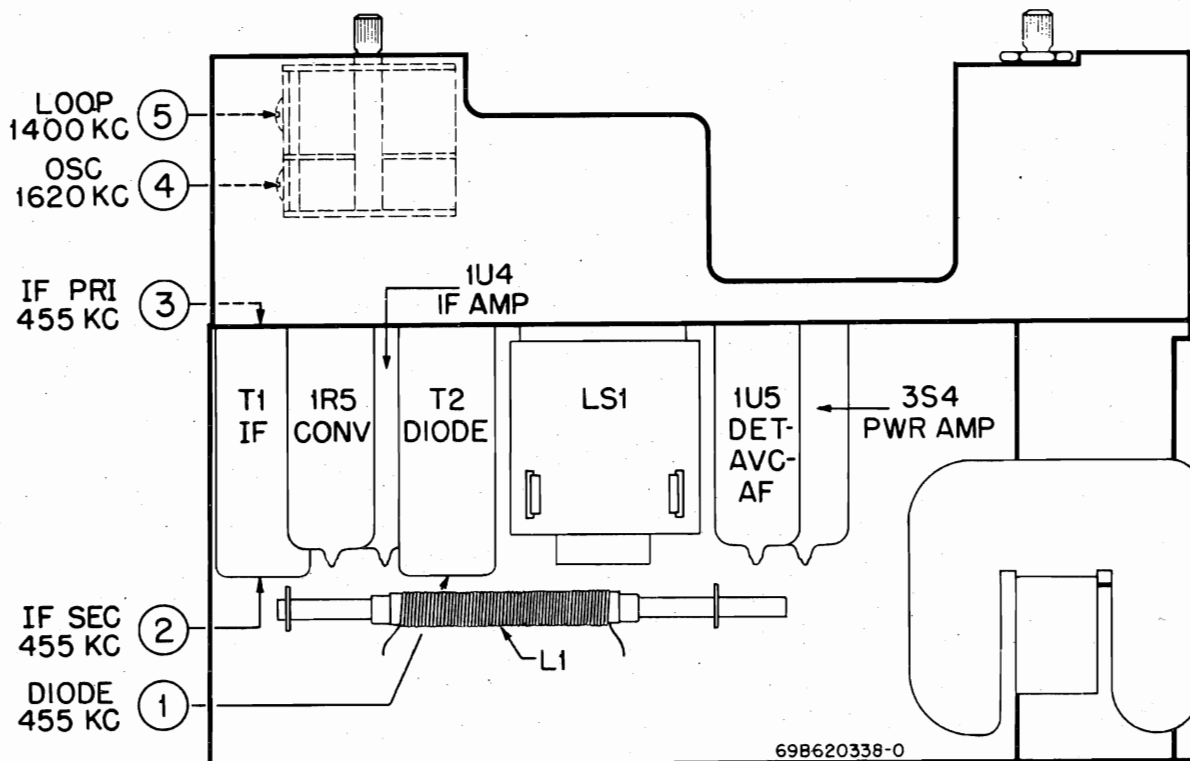

FIGURE 3. TUBE AND TRIMMER LOCATIONS
7. See Figure 3 for adjusting locations and the following chart for procedure.